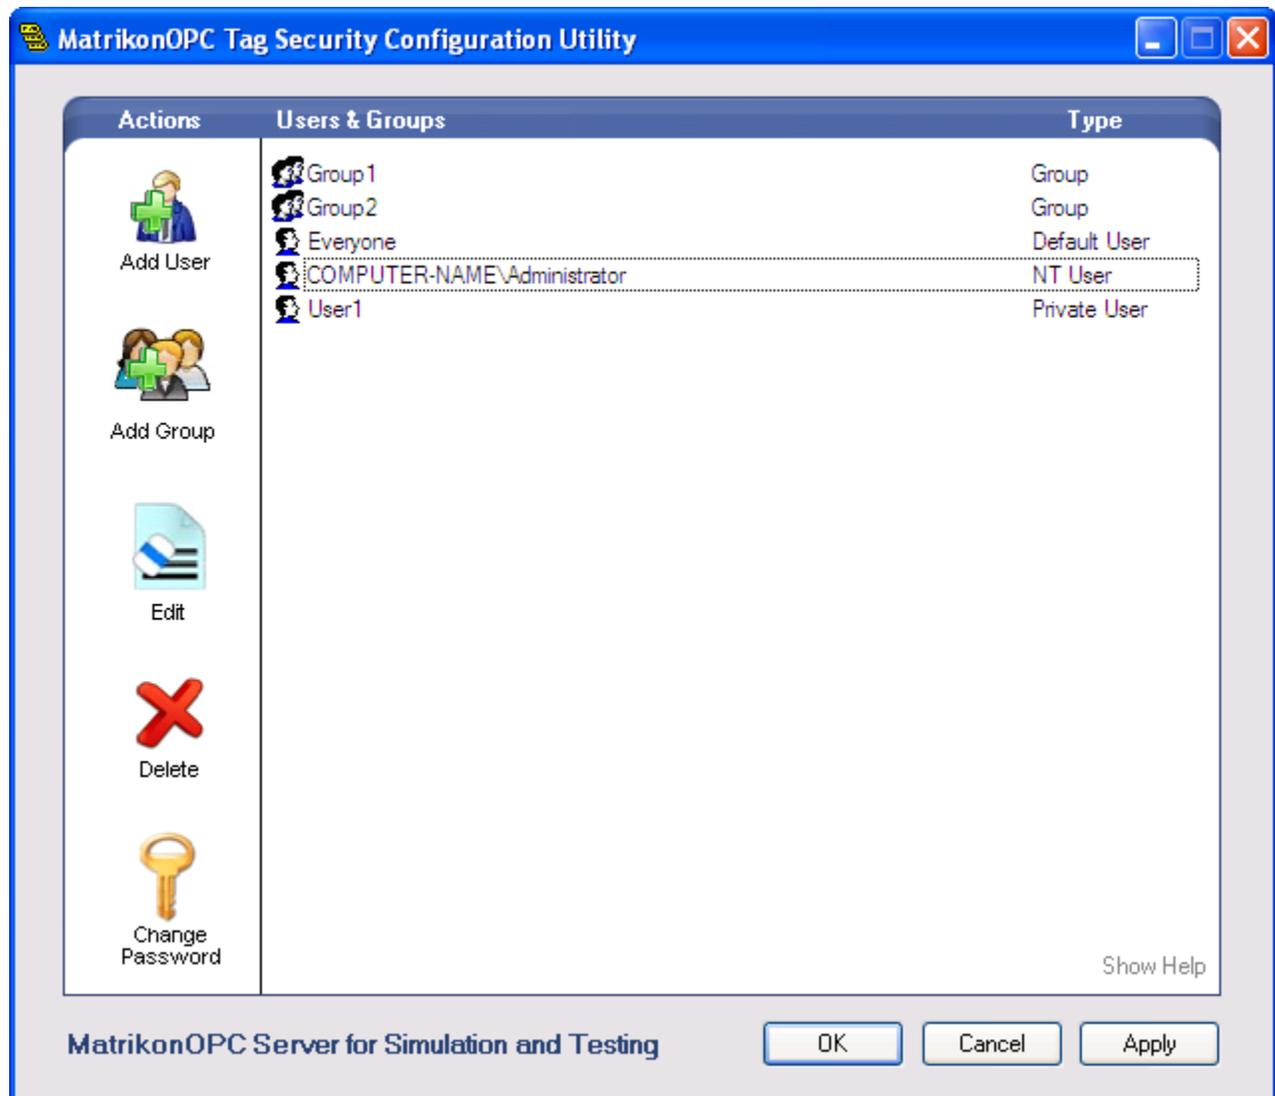

Figure 46 - Defined Users and Groups
5. To add the selected user, click on the **OK** button. The user is then added to the list of users and/or groups currently defined (refer to Figure 46 for a sample list of defined users and groups).
7. Click **OK** to create the Private user. It will be added to the list of users and/or groups currently defined (refer to Figure 46 for a sample list of defined users and groups).
- To add the selected group, click on the **OK** button. The group is then added to the list of users and/or groups currently defined (refer to Figure 46 for a sample list of defined users and groups).
5. Click on the **OK** button to create the group. It will be added to the list of users and/or groups currently defined (refer to Figure 46 for a sample list of defined users and groups).